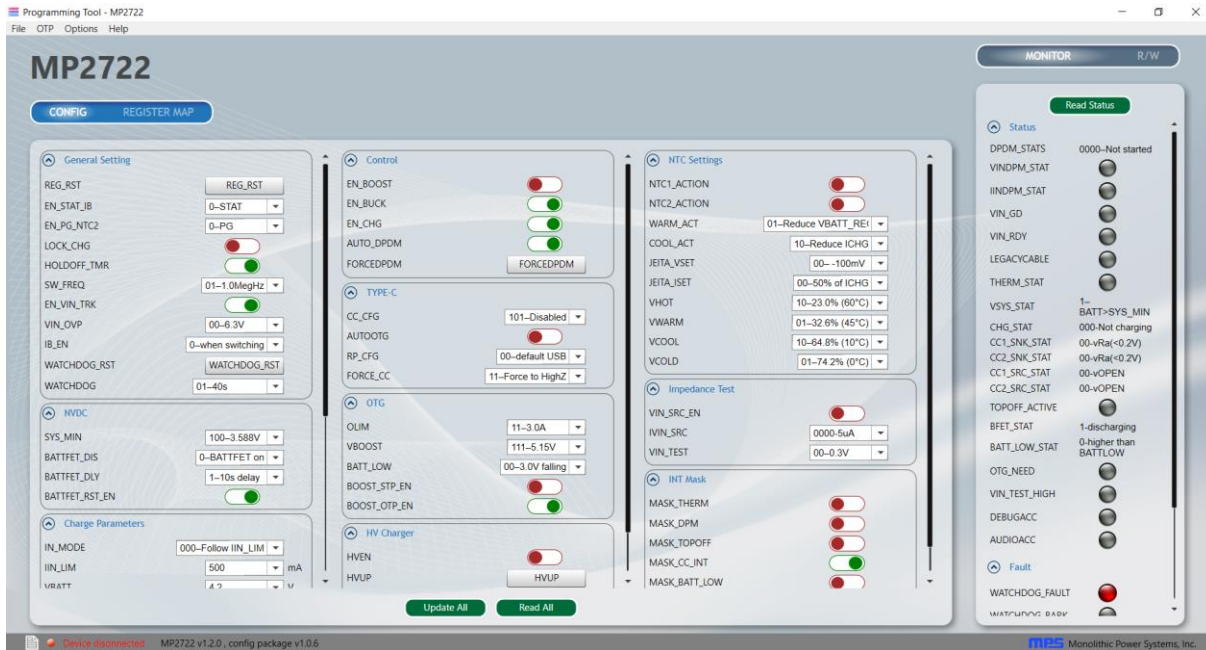

Figure 8: Warning Indicates Unsuccessful Connection (Evaluation Board is Not Connected)
- If the application shows “Device disconnected”, this means that the evaluation board is not connected correctly (see Figure 8).